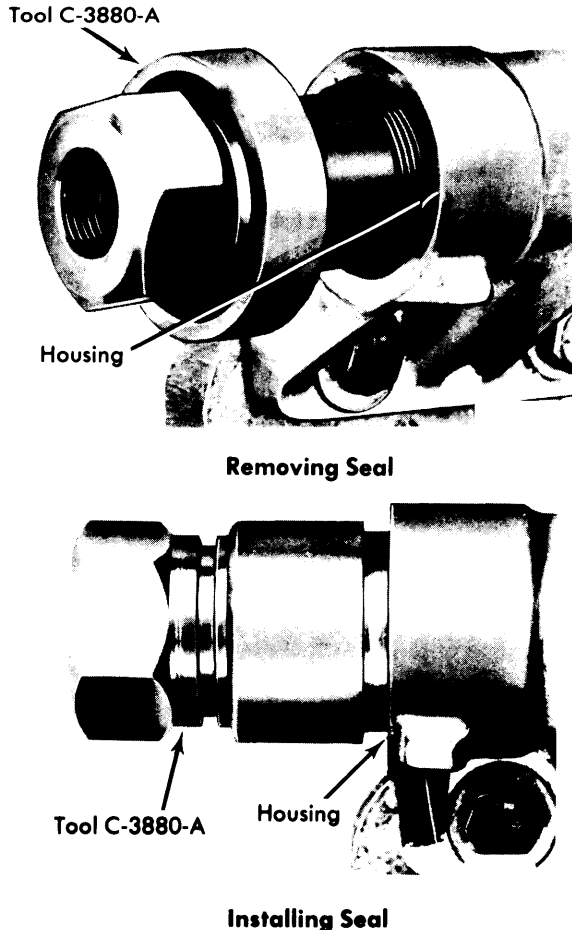

Fig. 7 Replacing the Sector Shaft Seal on Chrysler "B" and "PB" Models
2) Slide threaded adapter over end of sector shaft and install nut portion of a suitable tool. (See Fig. 7) Apply pressure on adapter with nut while screwing adapter into seal until it grips seal firmly. Place two half rings and retainer over both portions of tool. Turn nut counterclockwise to withdraw seal from housing.